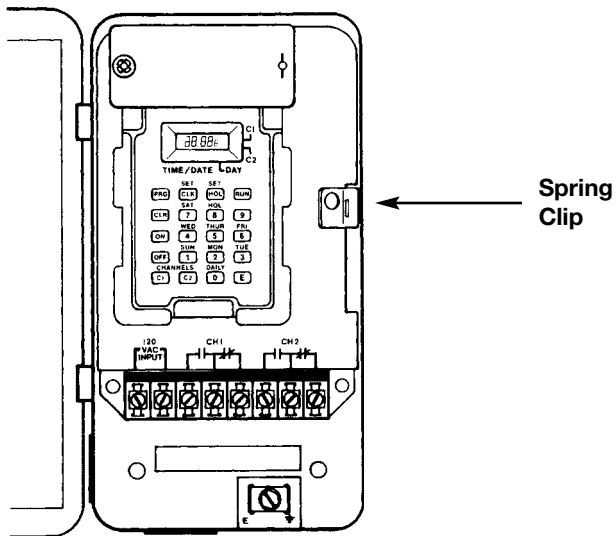

Figure 2. EC72 Installation
1. Press back on spring clip at right center of metal case. See Figure 2 at left. Lift control out and set aside.
5. Connect an electrical ground to grounding terminal screw located inside the metal case bottom. See Figure 2 at left.